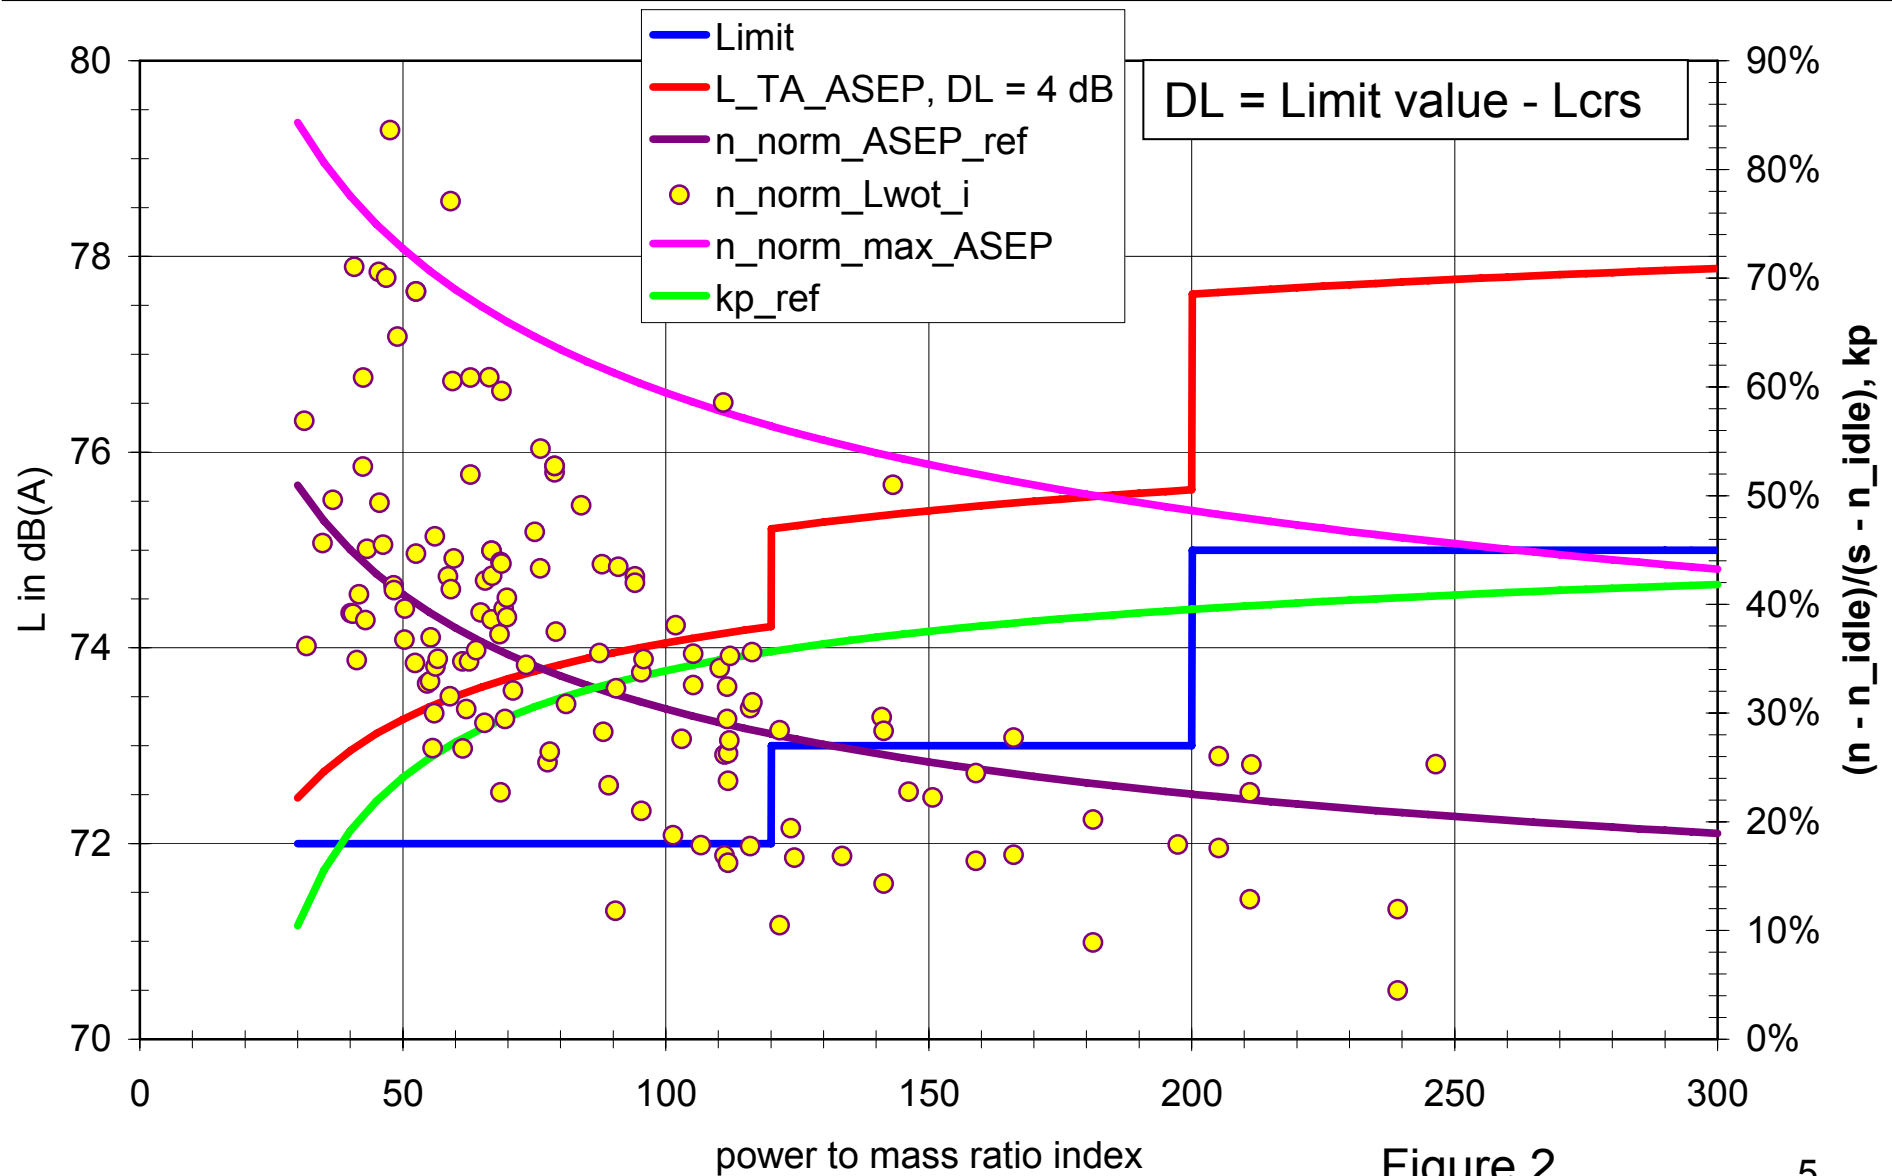

Figure 2
- $n_{norm\_ASEP\_ref}$  is based on statistics used for the development of Annex 3 procedure, it is shown in figure 2 together with the limit and  $L_{TA\_ASEP}$  values.